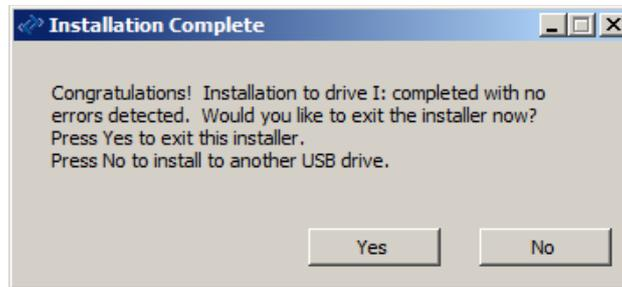

Figure 2.5 – Installing USB Client onto USB Key
3. The process will successfully complete with message. See figure 2.5